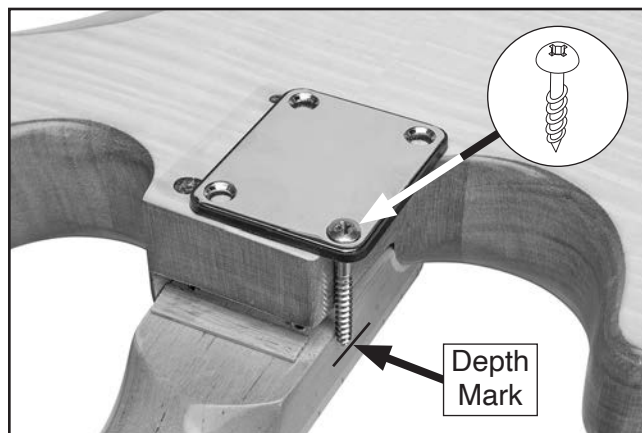

Figure 8. Depth of screw tip marked on neck.
5. Place neck plate and neck plate gasket on top of body so a mounting hole extends beyond body and neck (see **Figure 8**).
6. Insert (1) M5 x 40 wood screw through plate and gasket (see **Figure 8**).
7. Gently mark screw tip depth on neck with a pencil (see **Figure 8**).